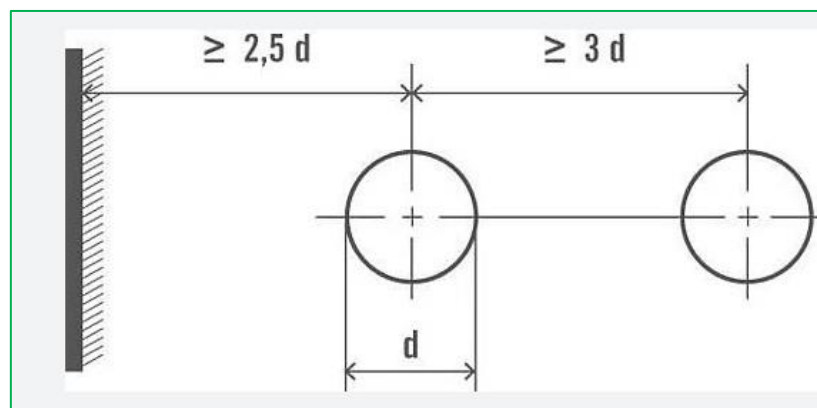

fig.3.1: Rockwell Hardness test specimen as per ISO 6508
2. To find the ultimate tensile strength of the metal specimens from the Brinell hardness number by using empirical relationships as shown in fig.3.1